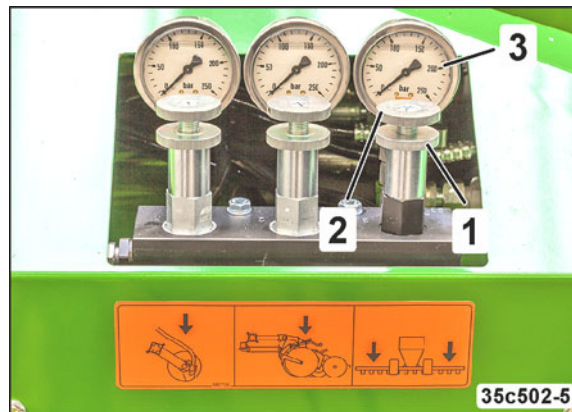

Fig. 178
1. Unscrew the lock nut (Fig. 178/1).
2. Adjust the pressure on the sections by turning the valve screw (Fig. 178/2).
- Read of the pressure at the pressure gauge (Fig. 178/3).
The pressure displayed on the pressure gauge (Fig. 178/1) changes until the fan (singling) runs at a constant speed.